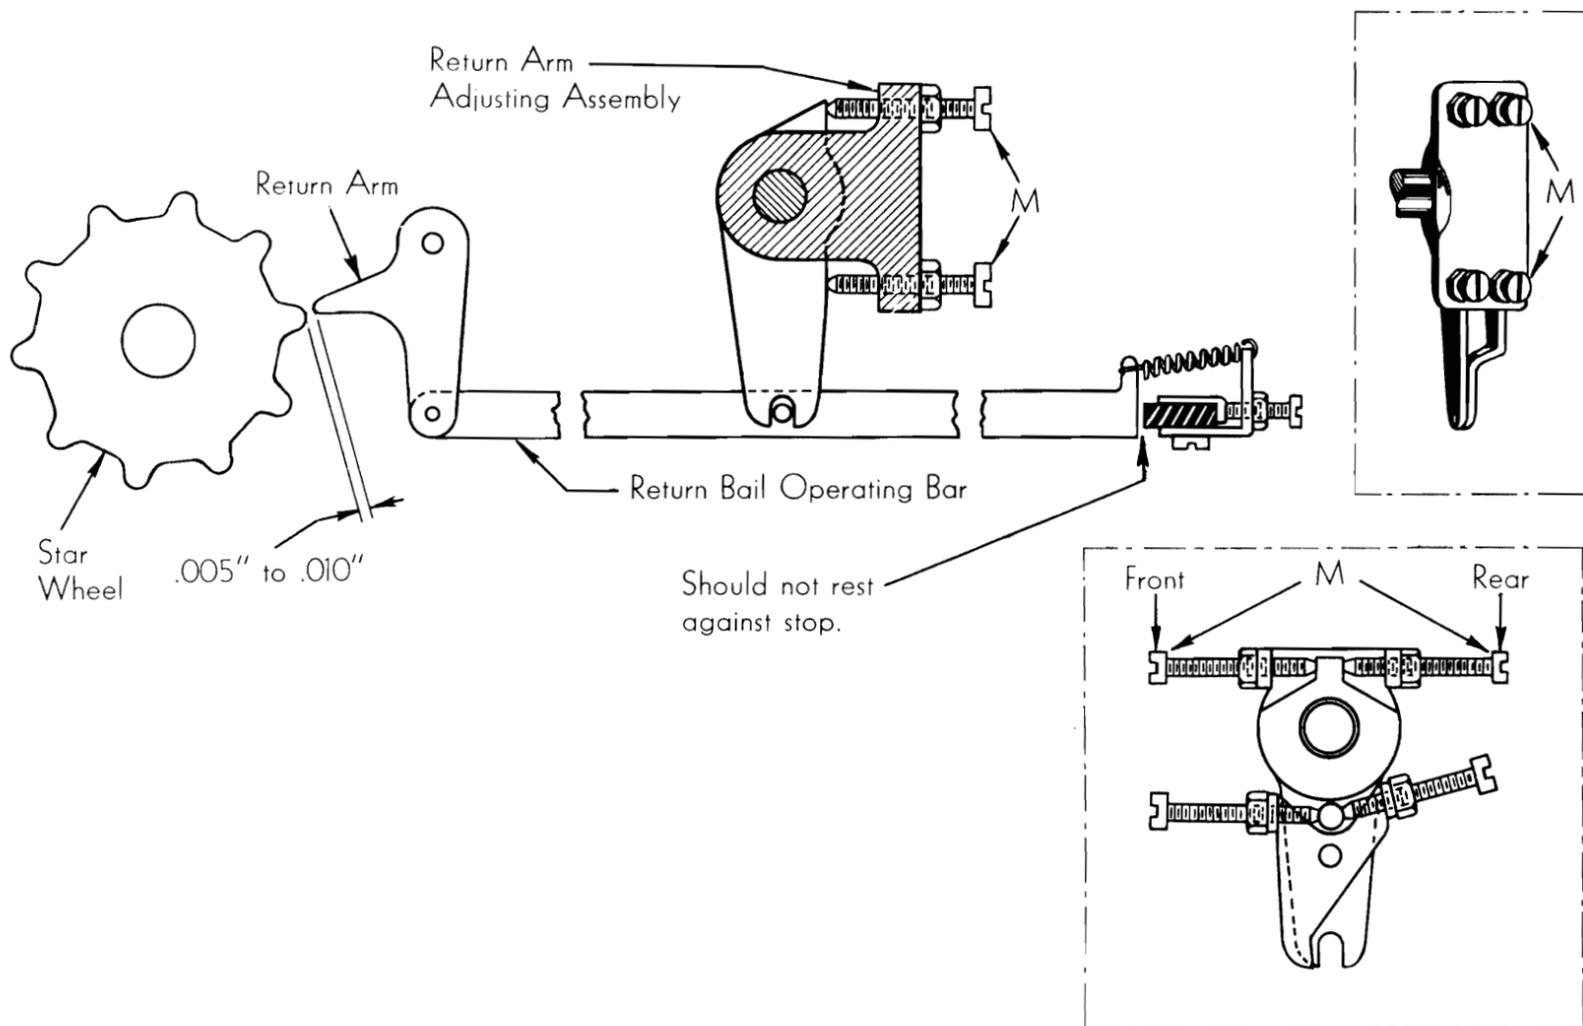

FIGURE 7
Return Arm and Star Wheel Adjustment—Figures 7 and 8
When all character operating bars are in their normal position, there should be .005" to .010" clearance between the return arm and the lobes of the star wheel as the reamer shaft and star wheel are rotated, Figure 7. This adjustment is obtained by means of two adjusting screws (M) with lock nuts, on the return arm adjusting assembly at the extreme right end of the punch bell crank shaft (facing rear of machine). Be sure that the bell crank return bail is held up against the bell cranks while making this adjustment.
Note: This adjusting assembly for early Type 036 machines is shown in the lower insert in Figure 7. The adjusting screws (M) are used to obtain the .005" to .010" clearance. Loosening the screw with its head toward the front of the machine and tightening the screw with its head toward the rear will decrease the clearance between the star wheel and return arm.